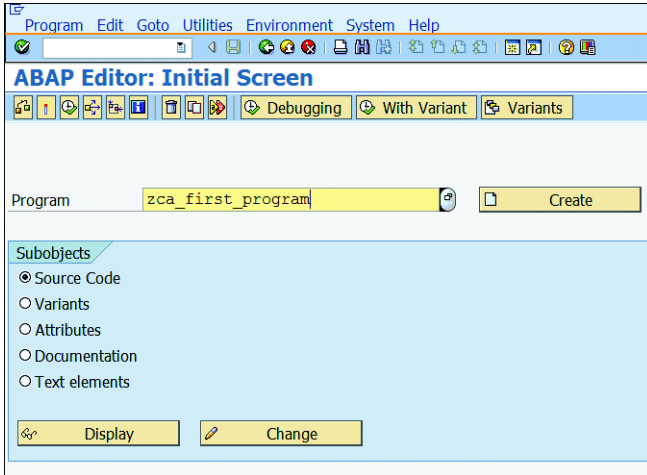

Figure 4.17 ABAP Editor: Initial Screen
2. On the ABAP Editor initial screen, enter the program name, select the `SOURCE CODE` radio button and click the `CREATE` button. Because this program will be a repository object, it should be in a customer namespace starting with Z or Y, as shown in Figure 4.17.